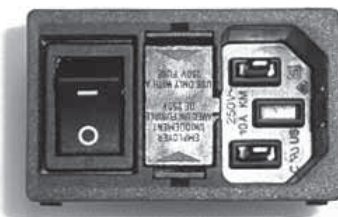

Fig. 1
- Use an appropriate tool to remove the fuse holder (8) situated between the power switch (7) and the power connector (6) (Fig. 1).